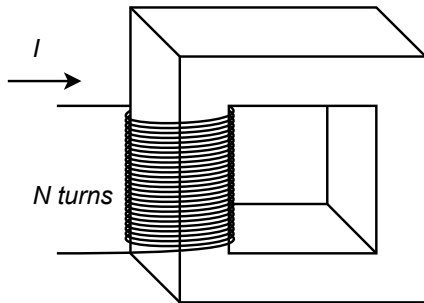

Figure 10.1
1. In the magnetic circuit shown in Figure 10.1, assume the cross section is 1 cm by 1 cm with a path length of 8 cm. The entire core is made of sheet steel and there are 100 turns on the winding. Determine the current to establish a flux of $8\text{E-}5$ webers.
3. Given the core shown in Figure 10.1, assume the cross section is 2 cm by 2 cm with a path length of 10 cm. The entire core is made of cast steel and there are 200 turns on the winding. Determine the current to establish a flux of $4\text{E-}4$ webers.
5. In the magnetic circuit shown in Figure 10.1, assume the cross section is 1 cm by 1 cm with a path length of 8 cm. The entire core is made of sheet steel. Determine the number of turns required to establish a flux of $8\text{E-}5$ webers given a current of 50 mA.
6. Given the core shown in Figure 10.1, assume the cross section is 2 cm by 2 cm with a path length of 10 cm. The entire core is made of sheet steel. Determine the number of turns required to establish a flux of $4\text{E-}4$ webers given a current of 200 mA.